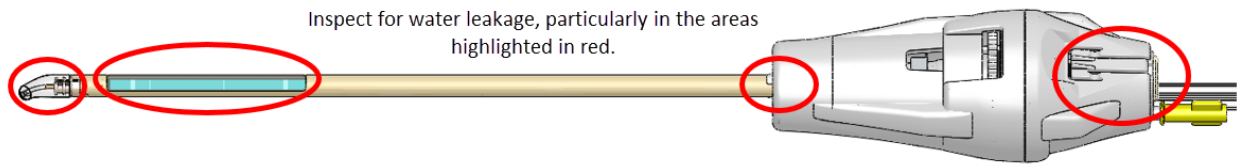

Figure 19: Areas to inspect for water leaks in the UA
7. **Urologist:** Closely inspect the UA along the length of the shaft for any water leakage, paying attention to the areas of interest shown in *Figure 19*. If you see water, the UA is defective and must not be used.